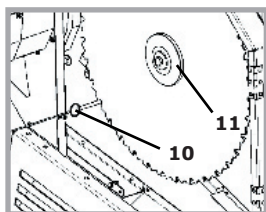

Fig. 9
- Fit the fixation bolt (Pos. 10, Fig. 9) in the special bushing on the steel stand to secure the blade while undoing the screws.
- Release and undo the fixation bolt on the blade clamping flange (Pos. 11, Abb. 9).